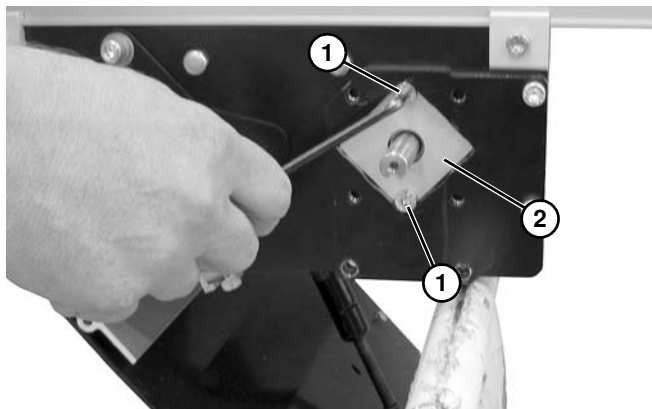

Figure 50
1. Remove screws (Figure 50, item 1) and remove spindle bearing block (Figure 50, item 2).